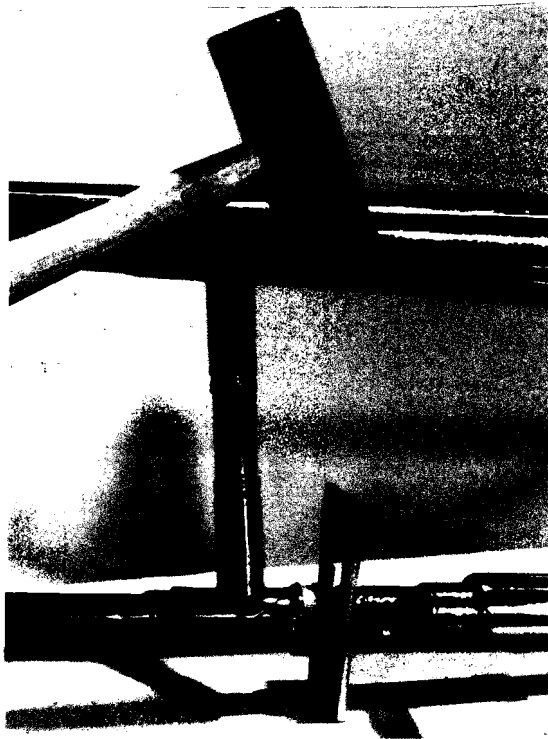

Figure 80
1. Insert the wedges between the shoulders of the two joints (Figure 80).